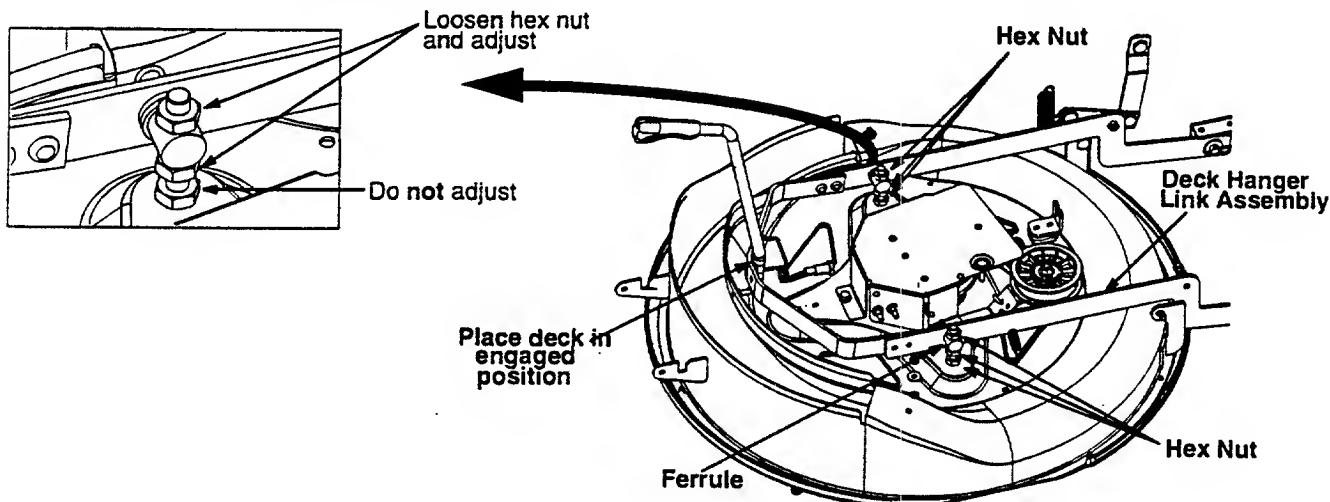

Figure 25
- Loosen the top hex nut out of the three nuts that hold the hex bolt and the ferrule on the deck hanger link assembly. See Figure 25. Do not try to loosen or tighten the bottom nut.
- Loosen the second nut up or down as necessary. See Figure 25.